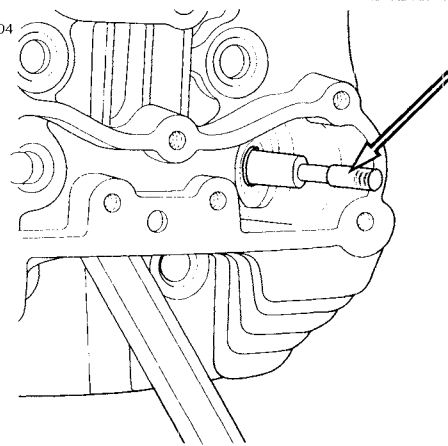

Figure 3-109. Plastic Capsule
7. See Figure 3-109. Push on bottom of valve until it contacts the valve seat. Placing finger at bottom of valve to keep valve seated, slide plastic capsule over valve stem tip and keeper groove.